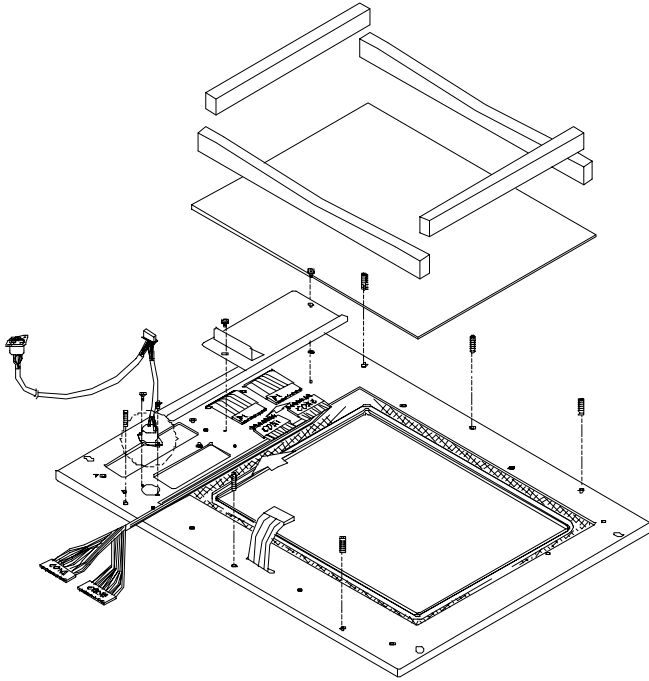

Figure 3.11: Replacing the touchscreen sensor
8. Separate the front panel from the chassis, the touchscreen cable from the touchscreen sensor, and the function keypad cable from the function keypad. (See Fig. 3-11.)